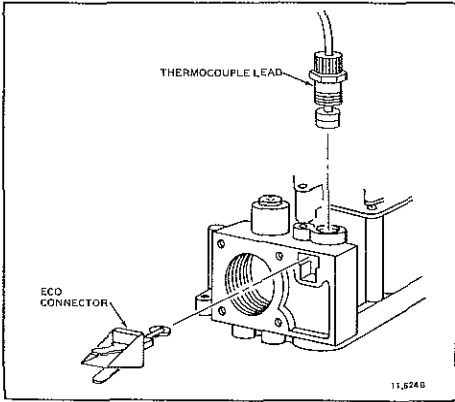

Fig. 1—Install ECO connector into gas control at thermocouple terminal location.
1. Insert the ECO connector as shown in Fig. 1.